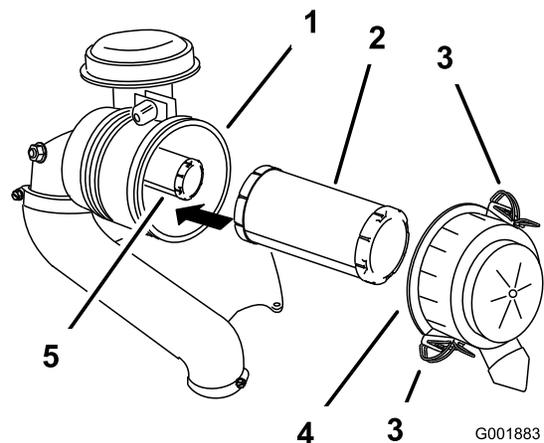

Figure 43
3. Release the latches on the air cleaner and pull the air-cleaner cover off the air-cleaner body (Figure 43).
- Gently slide the primary filter out of the air-cleaner body (Figure 43).
- If you are replacing the inner filter, carefully slide it into the filter body (Figure 43).
- Carefully slide the primary filter over the safety filter (Figure 43).
- Install the air-cleaner cover and secure the latches (Figure 43).